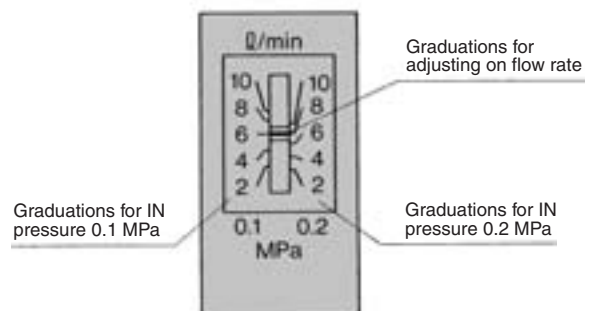

Fig. 1 Window name plate
- The indicator on the window name plate (Fig. 1) is only a guideline. For precise setting, mount a flow meter on the downstream side of the flow switch, and set the level. Also, when setting levels with a low flow rate at pressures of 0.2 MPa or more, there may be interference between the indicator needle and the scale plate. In such cases, detach the indicator needle and scale plate before setting. After setting, the indicator needle and scale plate can be reattached in positions of your choice.